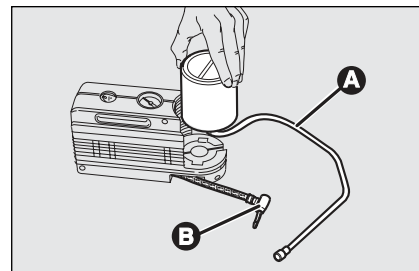

fig. 18
- ☐ disconnect connection **B**-fig. 18;